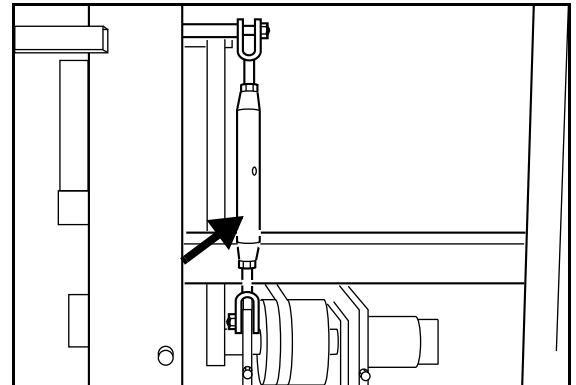

Fig. 9
- The timing belt for the nip roll drive is adjusted with a stretching screw, see Fig. 9.